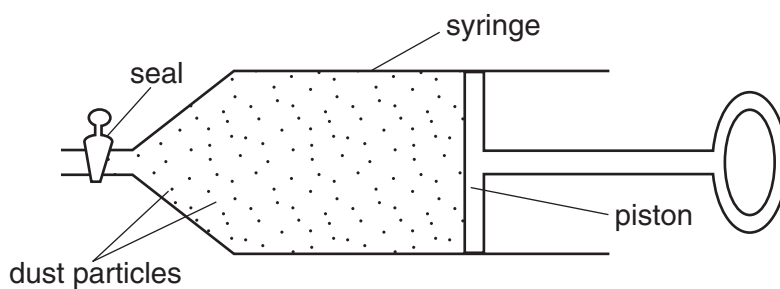

Fig. 4.1
- 2 Fig. 4.1 shows a sealed glass syringe that contains air and many very tiny suspended dust particles.